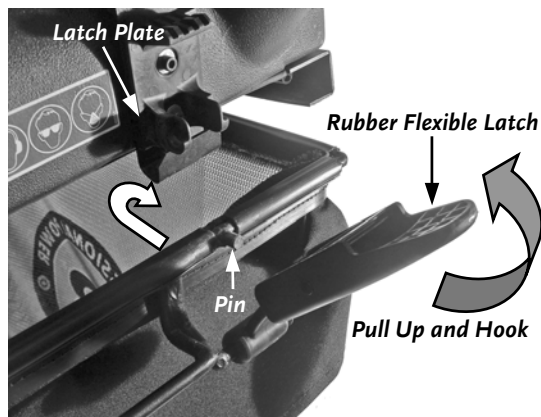

Figure 14b
1. Unhook the two (2) Rubber Flexible Latches from the Latch Plates on the Top Shield Assembly. See **Figure 14b** on page 25.
3. Lift the Debris Bag making sure that the pins on the Frame (**Figure 14b**) go behind the Latch Plates and then lift and hook the two (2) Rubber Flexible Latches on to the Latch Plates on the Top Shield Assembly.